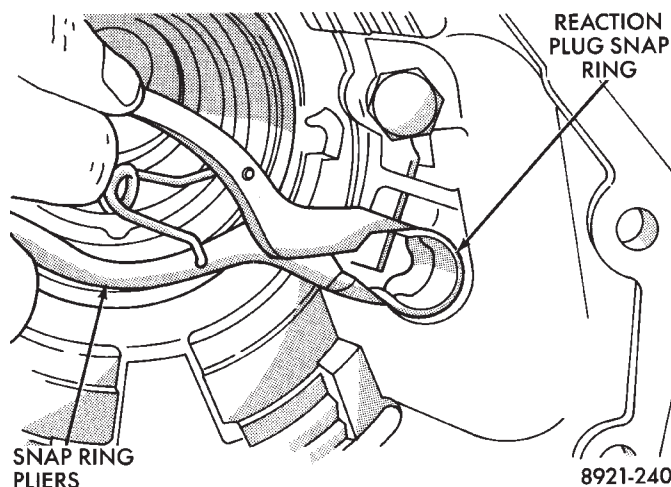
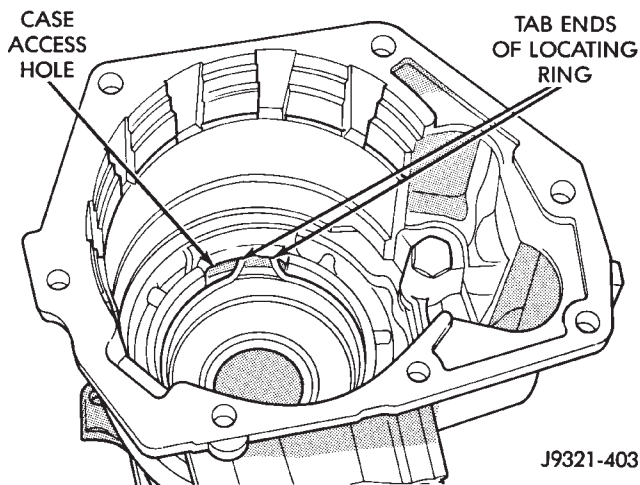

Fig. 229 Reaction Plug And Snap-Ring Installation
Fig. 230 Correct Rear Bearing Locating Ring Position
(4) Install reaction plug snap-ring (Fig. 229). **Compress snap ring only enough for installation; do not distort it.**
(5) Install new seal in gear case. On 4x4 gear case, use Tool Handle C-4171 and Installer C-3860-A to seat seal in case. On 4 x 2 gear case, use same Handle C-4171 and Installer C-3995-A to seat seal in case.
(6) Verify that tab ends of rear bearing locating ring extend into access hole in gear case (Fig. 230).